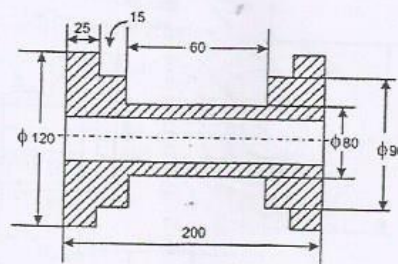

Fig.4
14. (a) Calculate the total cost of CI (Cast iron) roller shown in Fig.4, from the following data: